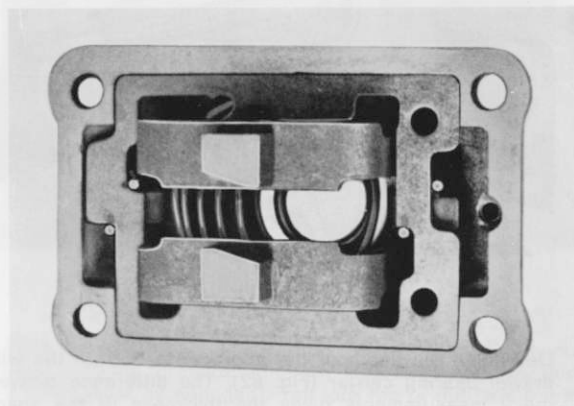

Fig. 69
- 1.5 Place selector gate (627) with the 2 bores to the breather hole over the interlock swing and place on the shift turret (629) (Fig. 69).